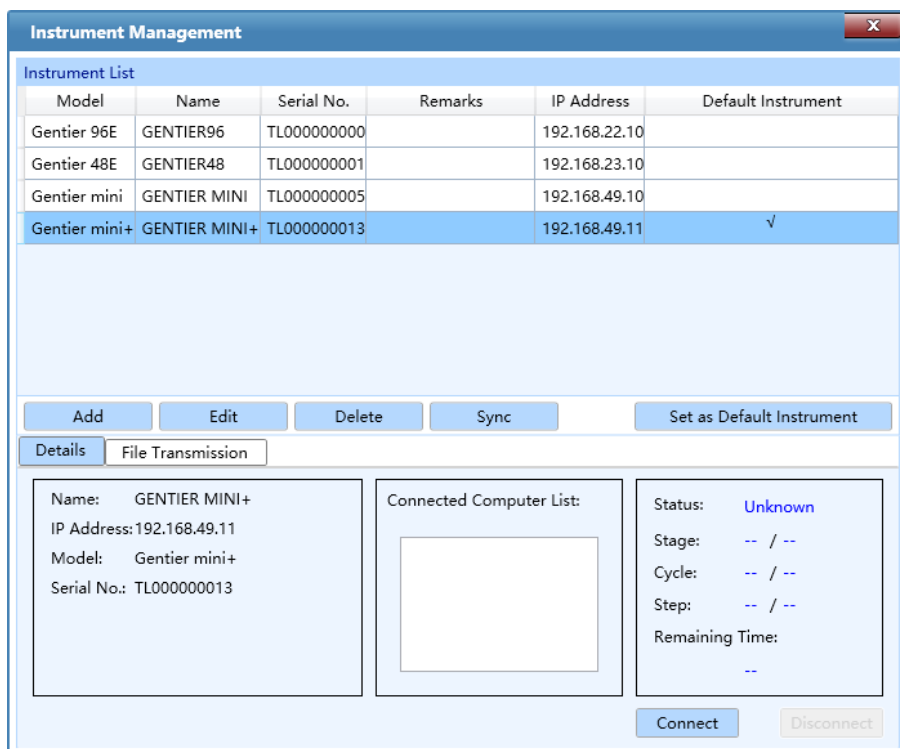

Figure E-3.2 Tool Submenu - Instrument Management Interface
- 1. Instrument Management:** Click *Instrument Management* option in *Tool* submenu and the application software will call up the instrument management interface, which consists of three parts: *Instrument List*, *Details* tab and *File Transmission*, as shown in figure E-3.2. Users can manage all instruments within the LAN on this interface.